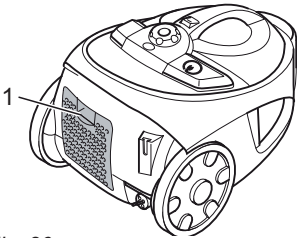

Fig. 26
2. Press the locking device (Fig. 26/1) down to open the exhaust filter cover and remove the cover.